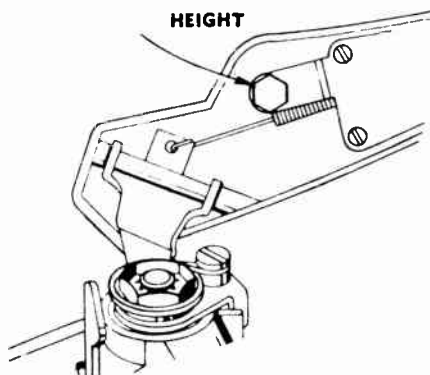

Figure V14.
4. **Pickup Arm Strikes Record That Is On Spindle:** See figure V14.